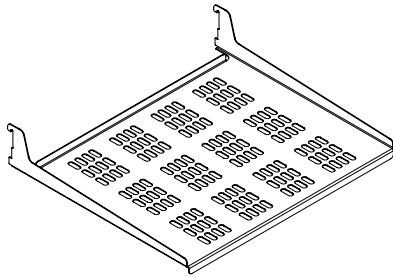

Figure 35
(2) perforated metal cantilever shelves. (See Figure 35).